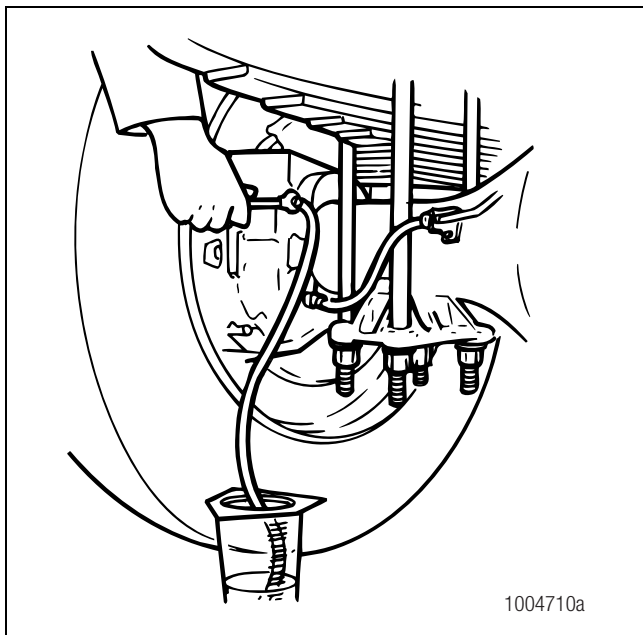

Figure 2
12. Open one caliper bleeder screw until fluid begins to flow (3/4 turn). Allow the fluid to run until 8.5 ounces (250 cc) has been collected. Take note of the fluid level in the bottle before starting. Figure 2.